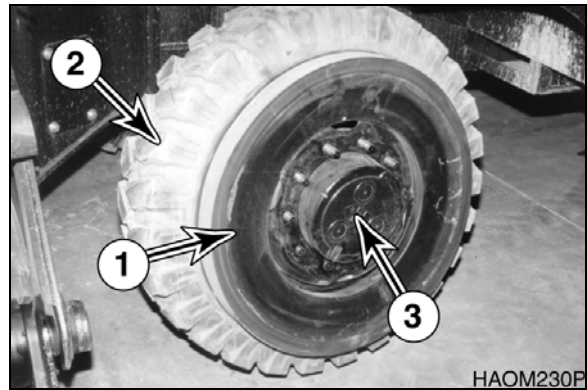

Figure 123
6. Remove rubber spacer (1, Figure 123) and inner tire assembly (2) from hub (3). Examine rubber spacer assembly for wear and damage. Replace if necessary.